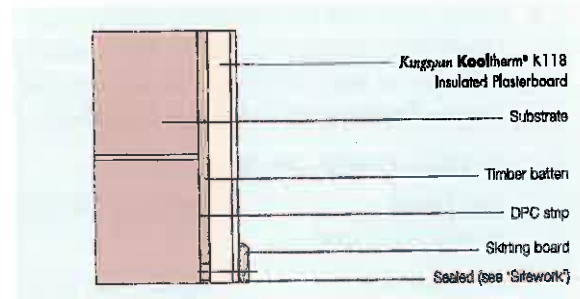

Figure 10 – Packer and skirting detail
- The packer should be replaced with a flexible / sealant or equivalent (for 5 mm gaps), or with a combination of flexible polyurethane foam and flexible sealant or equivalent (for 15 mm gaps) (see Figure 10).